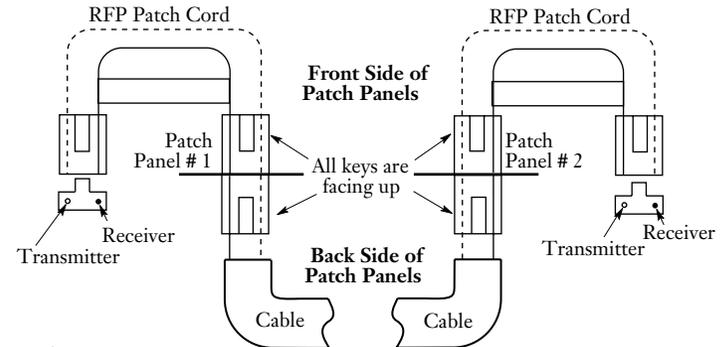

Figure 6
**2.5** This RFP method also works in a system where MT-RJ patch cords are installed in patch panels between two transceivers. Figure 6 illustrates a system wired with the RFP technique.
**2.6** In Figure 6 the transmitter routes to the receiver with the connectors mated together with keys oriented in the same direction on the front and back of the patch panels. RFP maintains this system polarity. Note that the connector in patch panel #1 has the dashed fiber on the right side of the key, and in patch panel #2 it is on the left side of the key.